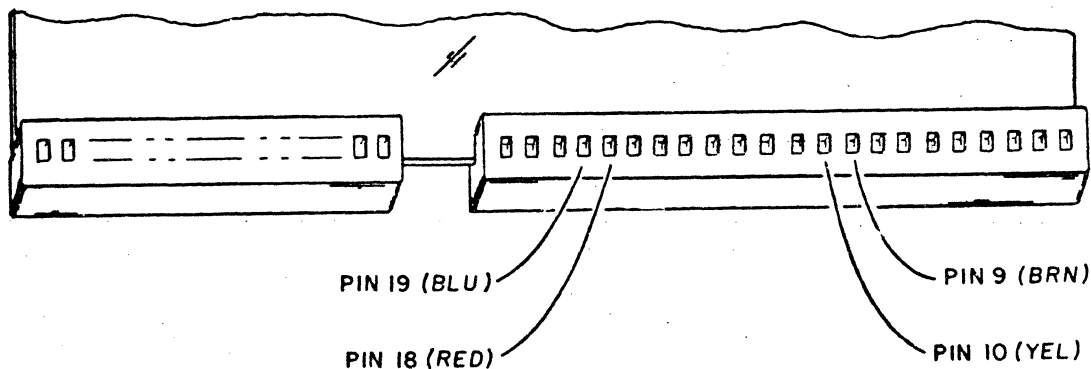

Figure CRT21. Removing Flag Terminals
- 5) Disconnect flag terminals 9, 10, 18, and 19 from BP4 connector (four wires leading to yoke) by inserting small end of paper clip into top of connector in space available between flag terminal and insulation (see figure CRT21) and then pulling out wire gently from bottom of connector. (Flag terminal end has a wedge-type spring clip which, when released by paper clip, permits flag terminal to be withdrawn with wire from connector.)